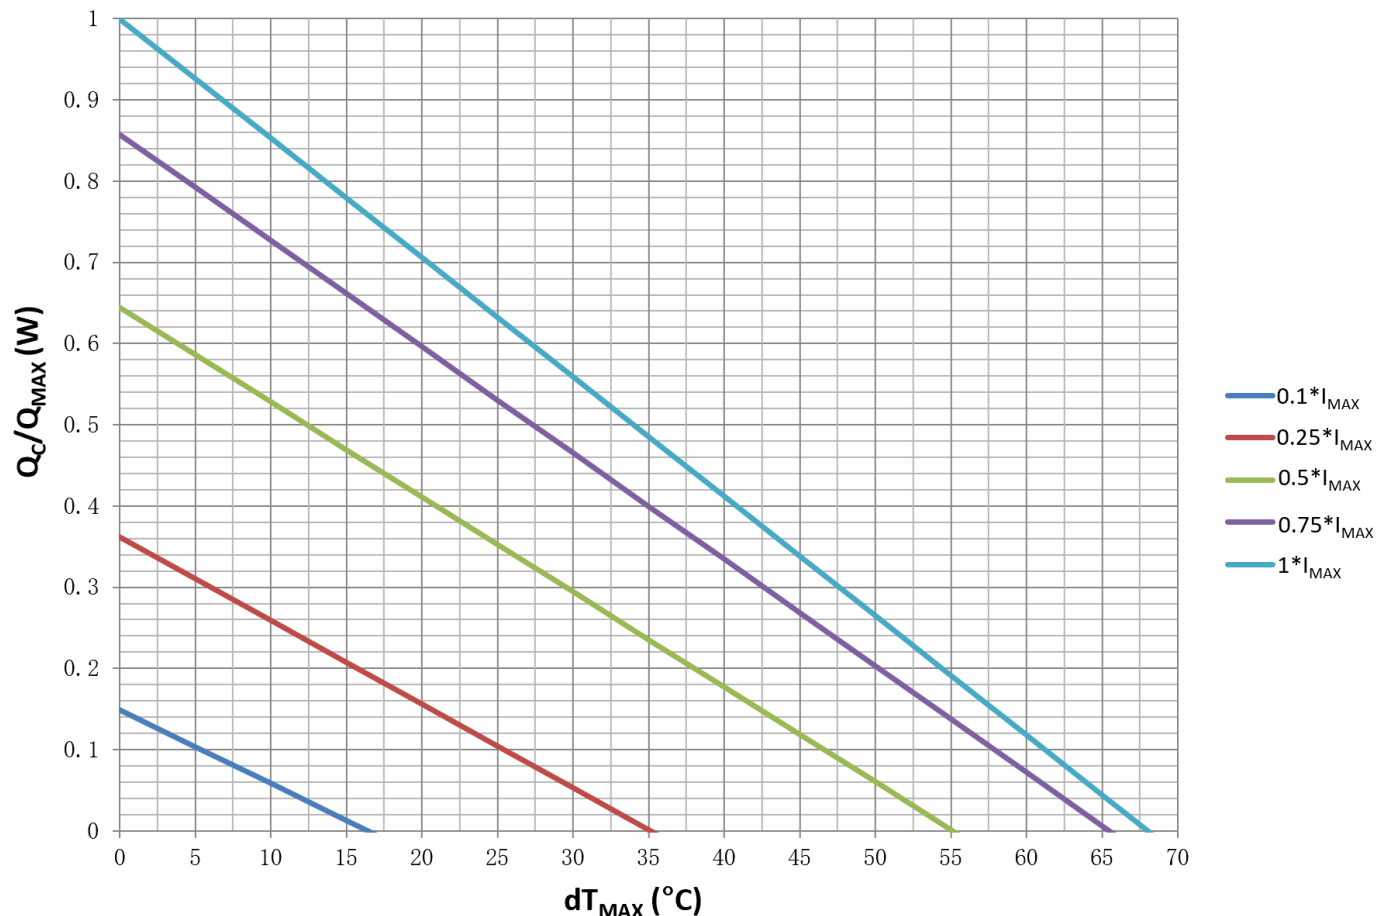
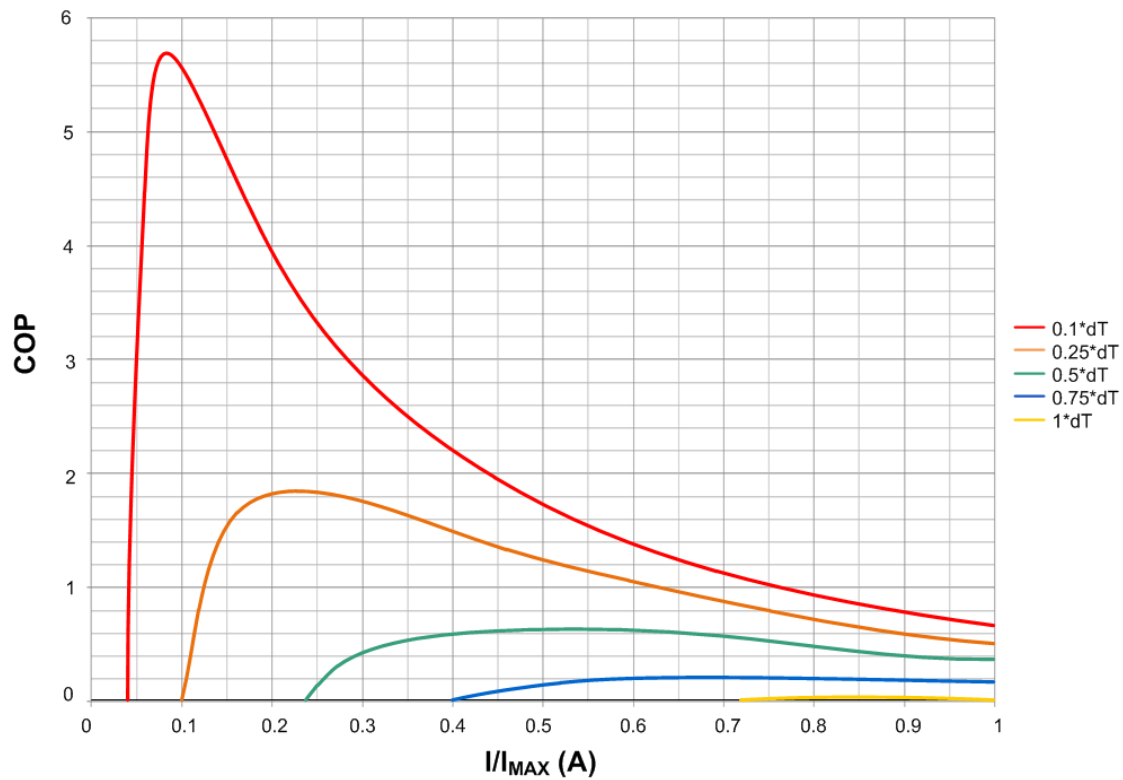
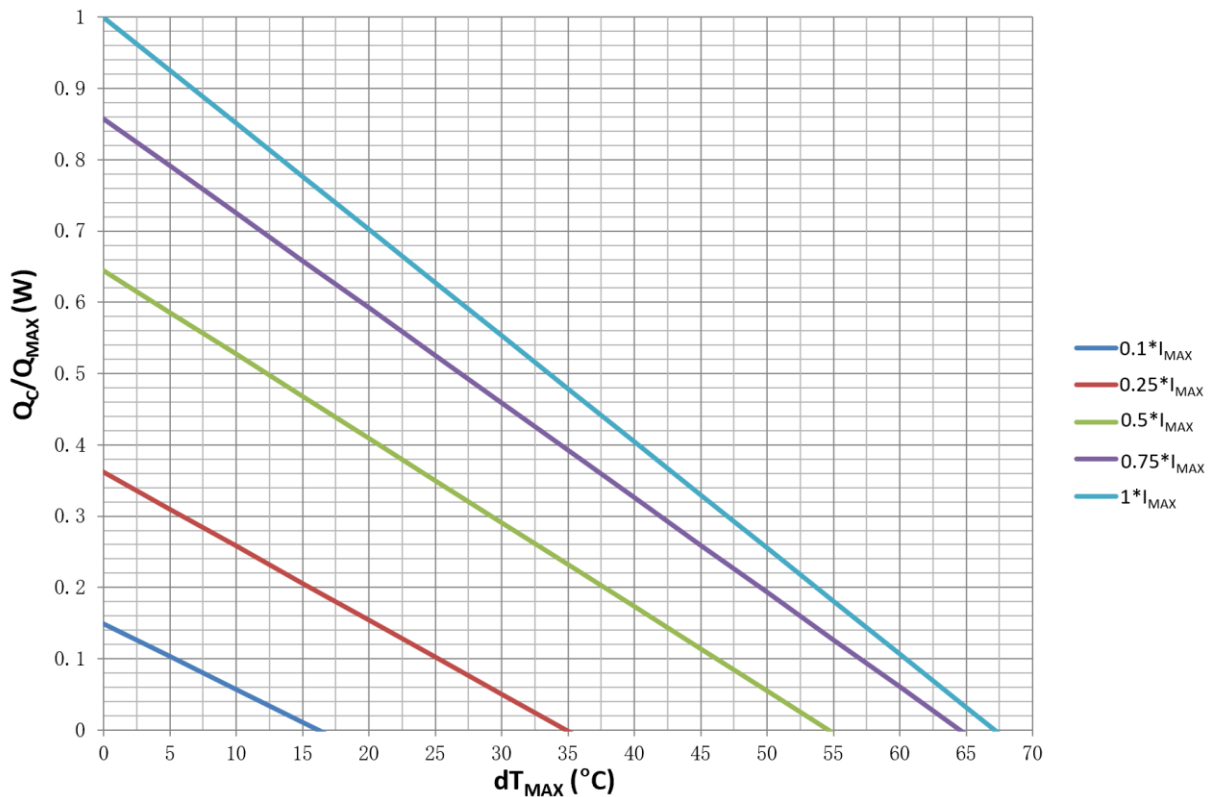
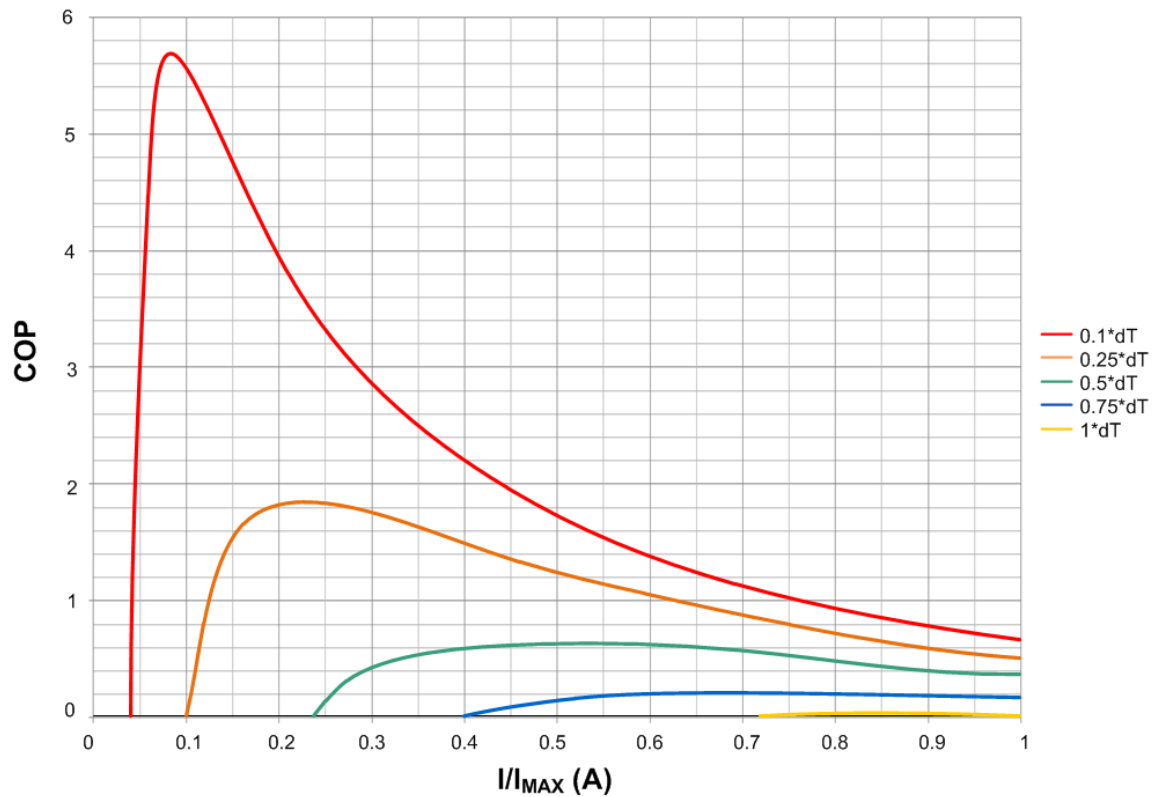

Figure 2. Q_c/Q_{MAX} vs. dT_{MAX}
Figure 5. COP vs. I/I_{MAX}
Figure 6. Q_C/Q_{MAX} vs. dT_{MAX}
Figure 9. COP vs. I/I_{MAX}
5. Use the charts provided in Figure 2 to Figure 5 and Figure 6 to Figure 9, to decide which TEC to use, what is the heat needed to be dumped through the heat sink, what is the heat sink temperature, etc.